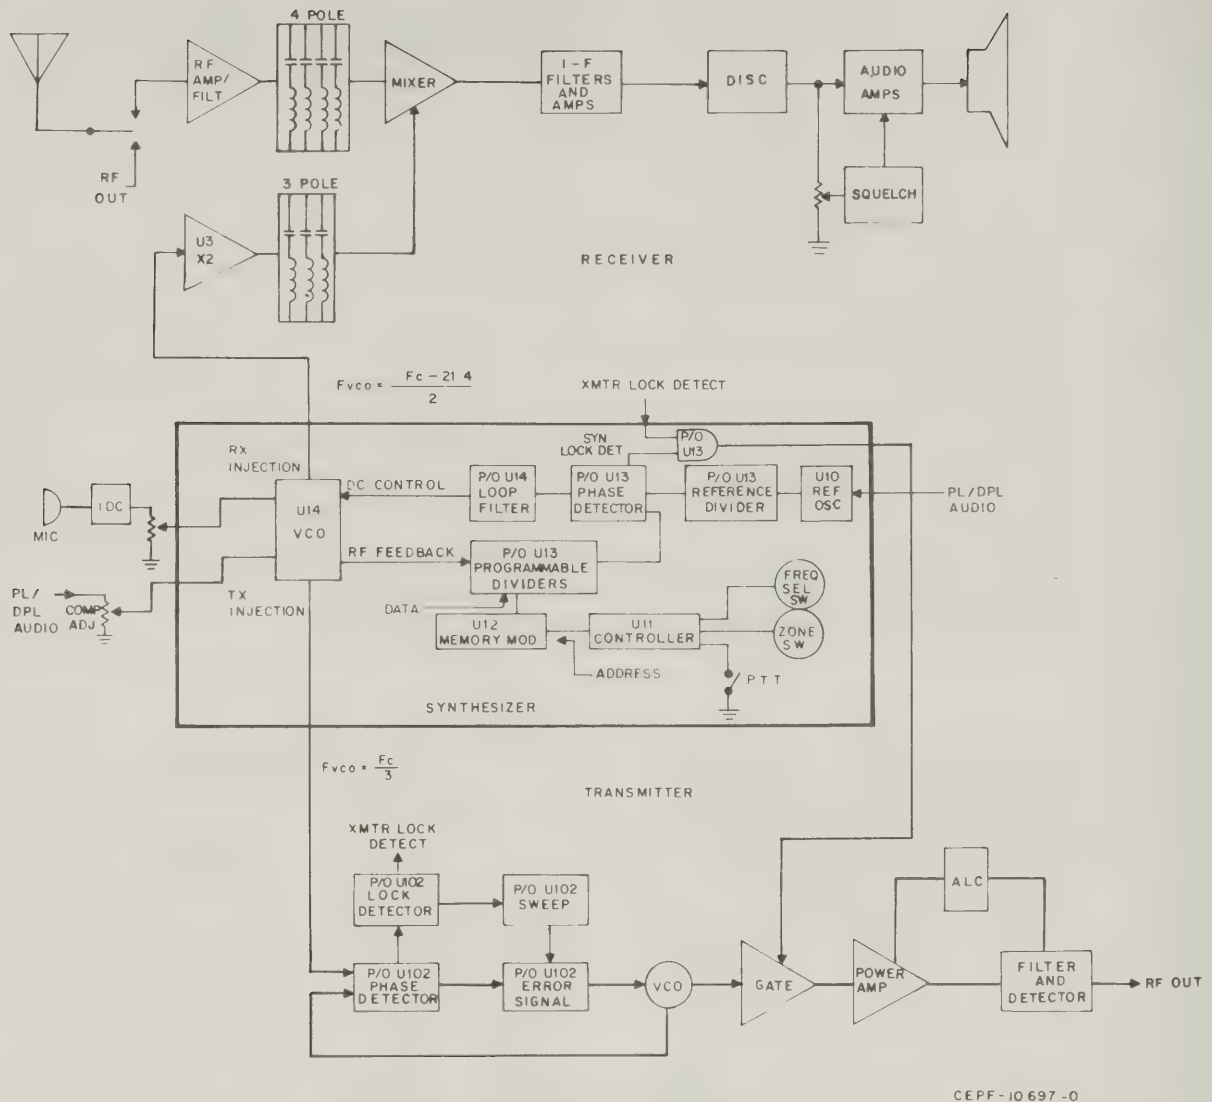
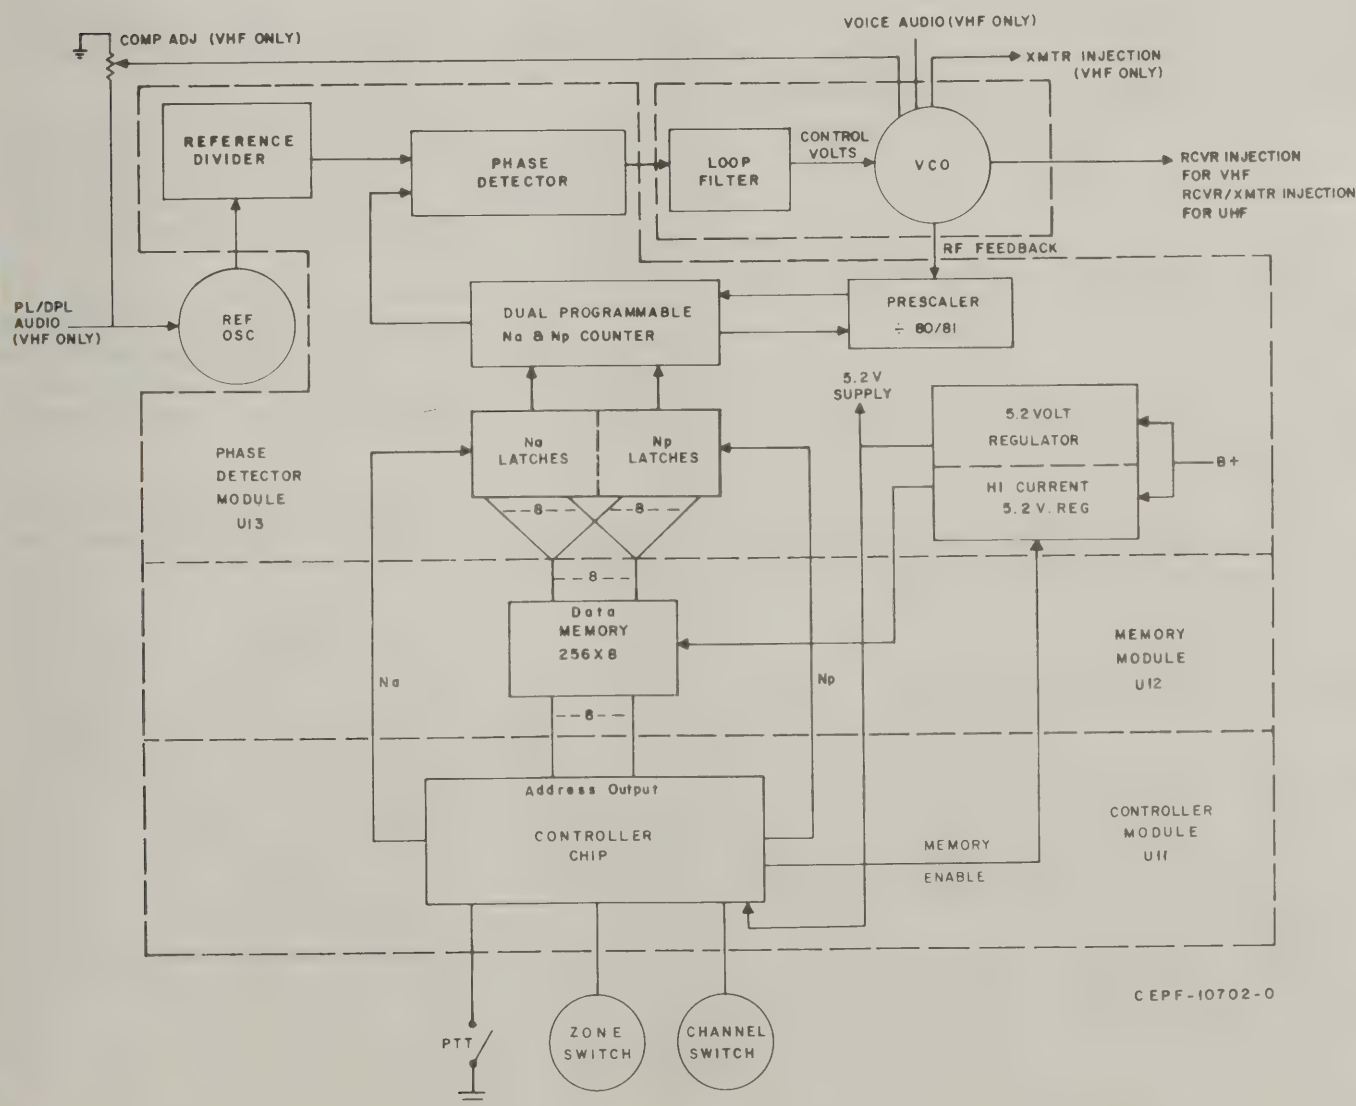

Figure 1. Vhf Radio Block Diagram
Figure 6. A2; Controller/Phase Detector Assembly
1. VHF RADIOS Refer to Figure 1.
4. A2; CONTROLLER/PHASE DETECTOR ASSEMBLY Refer to Figure 6.
As shown in Figure 6, the programmable dividers of Figures 1 and 2 are composed of a dual modulus prescaler, a dual programmable counter, and two sets of data latches. Two eight bit words (Na and Np) are stored in the latches, which program the counter with the necessary division ratio for converting the VCO frequency. This frequency is then compared with the reference frequency in the phase detector.